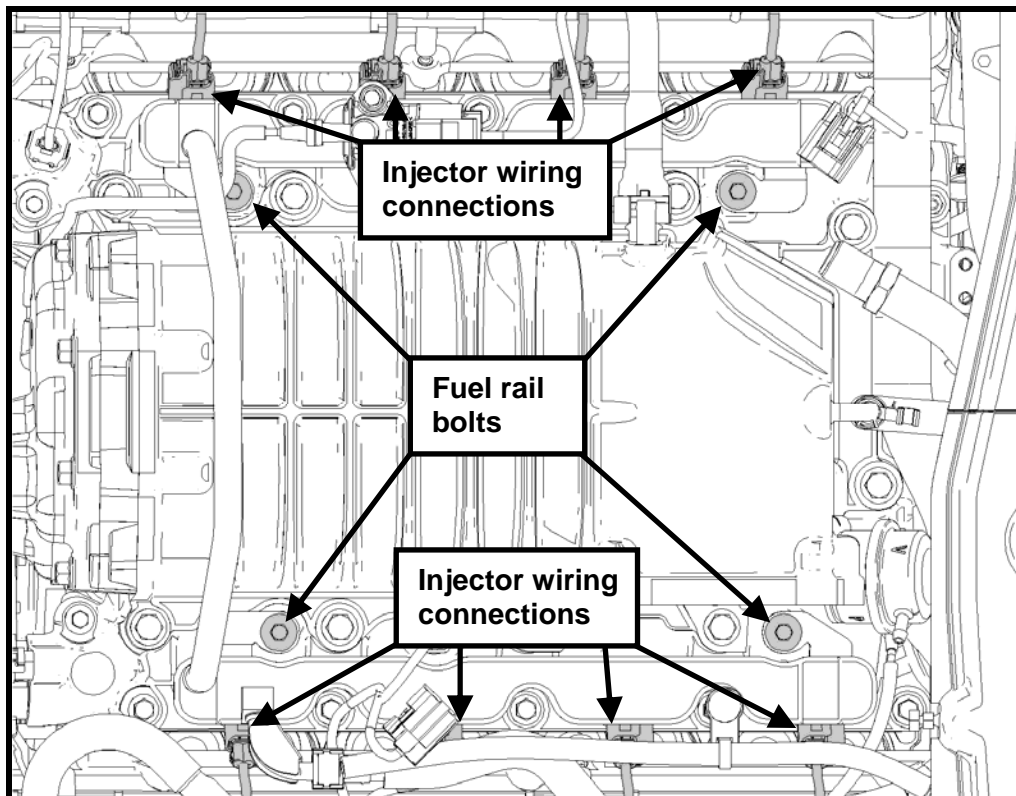

Fig. 15
**STEP 15:** Disconnect all eight fuel injector wiring connectors (See Fig. 15).
**Techline (800) FORD788**
**STEP 16:** Remove the fuel rail mounting bolts (See Fig. 15). Pull up on the fuel rail and all eight injectors to gain access to the supercharger. Rotate the fuel rail around the fuel rail supply line and set aside on the driver side strut tower.